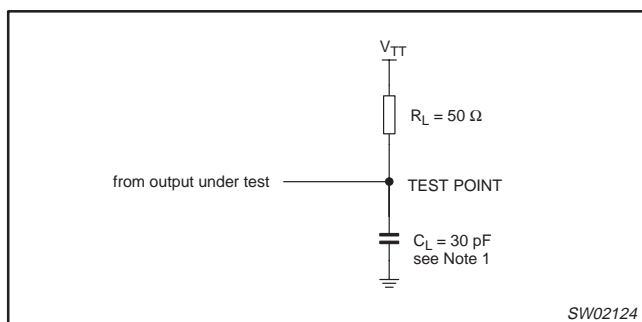

Figure 1. Load circuitry
**TIMING REQUIREMENTS—PC1600—PC2700**Over recommended operating conditions;  $T_{amb} = 0\text{ }^{\circ}\text{C}$  to  $+70\text{ }^{\circ}\text{C}$  (unless otherwise noted) (see Figure 1)
**TIMING REQUIREMENTS—PC3200**Over recommended operating conditions;  $T_{amb} = 0\text{ }^{\circ}\text{C}$  to  $+70\text{ }^{\circ}\text{C}$  (unless otherwise noted) (see Figure 1)
Class I,  $V_{REF} = V_{TT} = V_{DD} \times 0.5$  and  $C_L = 10\text{ pF}$  (unless otherwise noted) (see Figure 1)